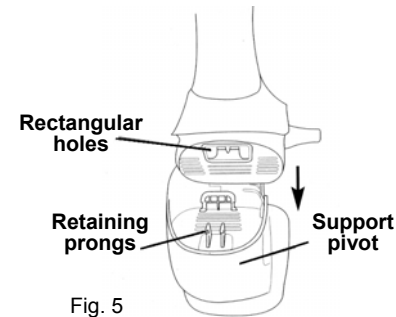

Fig. 5
- To connect the hand mixer to the support pivot into the two retaining prongs on the support pivot into the two rectangular holes in the heel of the hand mixer. (Fig. 5) When the hand mixer is seated on the support pivot, press down on the hand mixer to click it into place and lock the hand mixer and the support pivot together.